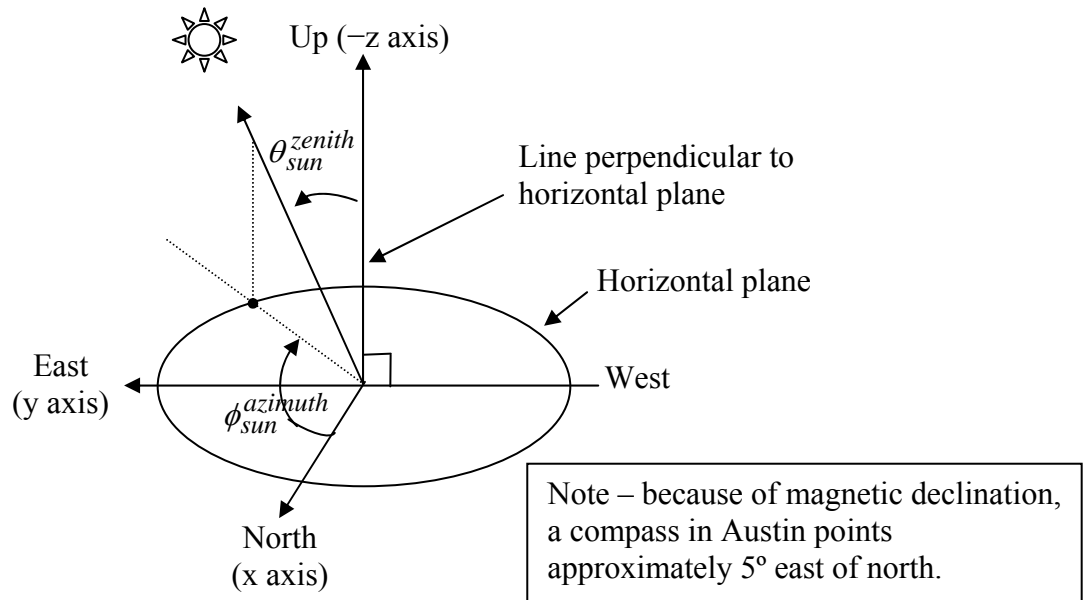

Figure 4. Sun Zenith and Azimuth Angles
The position of the sun in the sky varies dramatically with hour and season. Sun zenith angle θ_{sun}^{zenith} is expressed in degrees from vertical. Sun azimuth $\phi_{sun}^{azimuth}$ is expressed in degrees from true north. Sun zenith and azimuth angles are illustrated in Figure 4.
Equations (6) and (7) correspond to the projections, on the horizontal plane, of a vector pointing toward the sun. By examining Figure 4, $\phi_{sun}^{azimuth}$ can be found as follows: